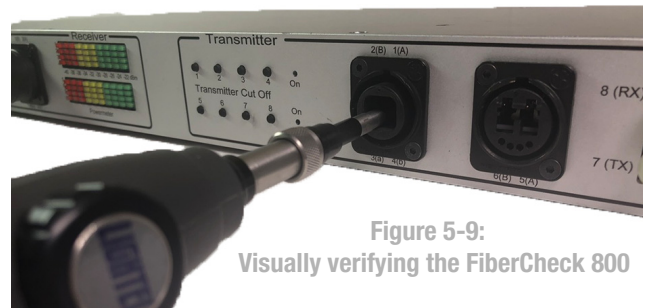

Figure 5-9:
- Step 1. Verify the FiberCheck 800 is clean by using the Chassis Cleaning and Inspection Shop Procedure; (See "opticalCON QUAD and DUO Chassis with Fiber Installed" on page 62) (Figure 5-9)